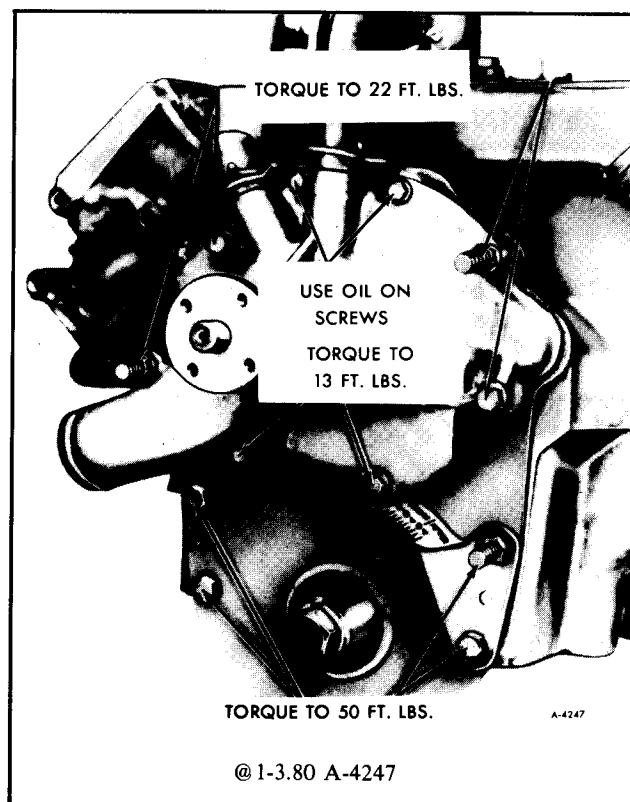

Figure 57—Engine Front Cover Bolts
2. Install front cover, timing indicator and water pump assembly. Apply engine oil to bolts and torque bolts as shown in Figure 57.